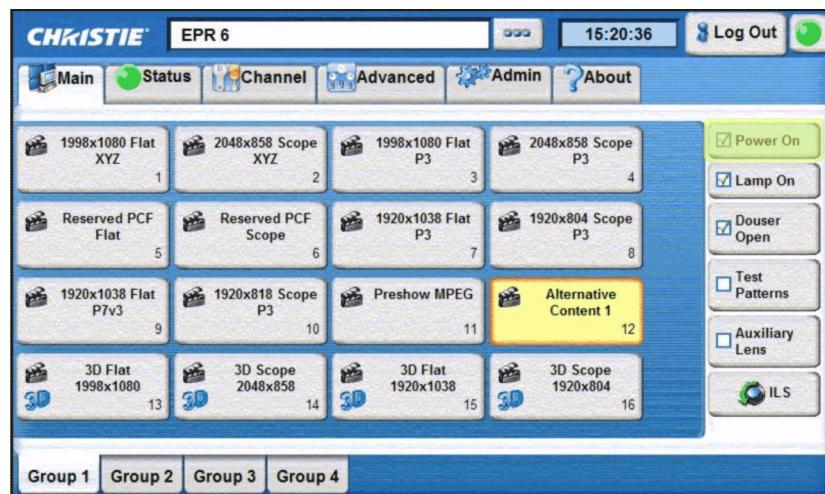

FIGURE 2-19 ENABLE POWER
Wait several minutes for the lamp to turn ON. (**Figure 2-19**)
2. To turn the projector OFF, disable **Power On**. (**Figure 2-19**).